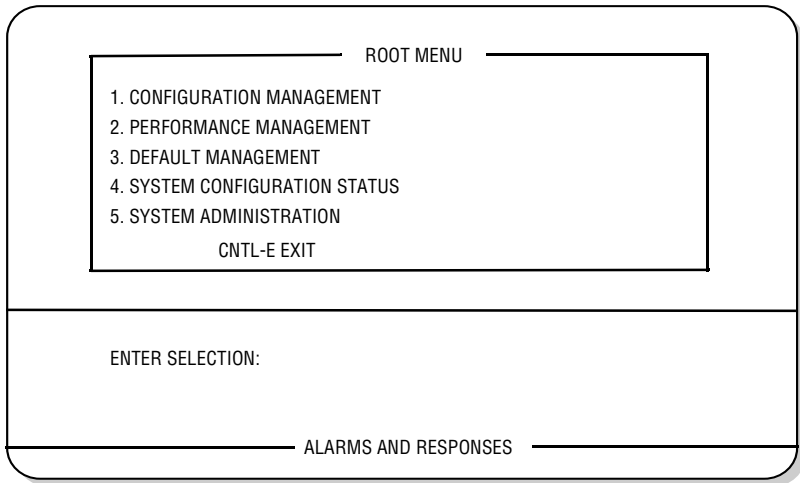

Figure 7. Root Menu
- Figure 7 shows the introductory Root Menu screen for the multiplexer unit. This is accessed through the HMU-319 List 7 or List 7A TAO program.